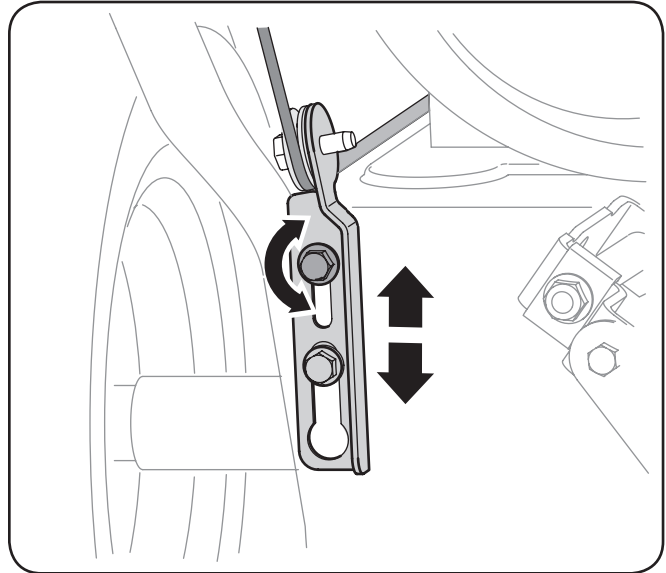

Figure 3-14
4. Allow the auger to remain engaged for approximately ten (10) seconds before releasing the auger control. Repeat this several times.
7. To readjust the control cable, loosen the upper hex screw on the auger cable bracket. See Figure 3-14.